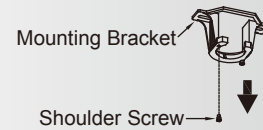

Fig. 18
Step 1. Remove one of the two shoulder screws in the mounting bracket. Loosen the second shoulder screw without fully removing it. (Fig. 18)